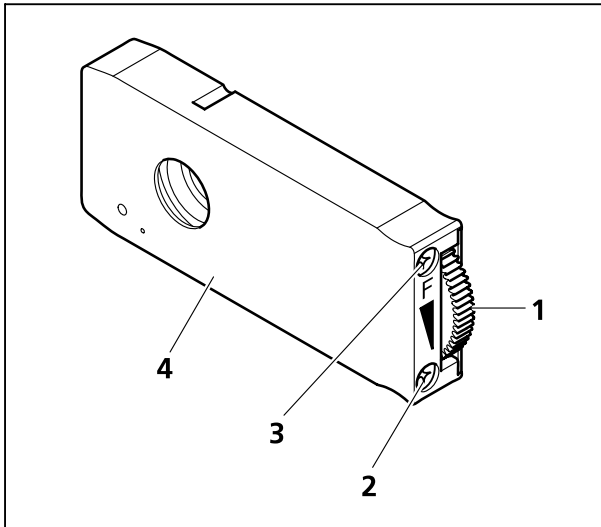

Fig. 4-36 Diaphragm slider 14x40 mm
- You will need one diaphragm slider 14x40 mm each (Fig. 4-36/4, inserted in the upper stand part as field diaphragm (**F**) and aperture diaphragm (**A**)) in order to adjust the reflected light beam path according to KÖHLER.
- The diaphragm is opened by turning the knurled wheel (Fig. 4-36/1) of the slider up and closed by turning it down.
- The diaphragm can be centered to the beam path with both centering screws (Fig. 4-36/2 and 3) and the hexagon socket wrench SW 3.